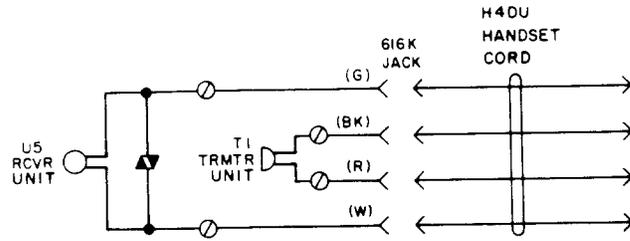

Fig. 4—K2A, K2C, and K2D Internal Handset Connections
3.02 Refer to Fig. 4 for electrical schematic diagram of K1A (MD), K2A, K1C (MD), K2C, K1D (MD), and K2D handsets.